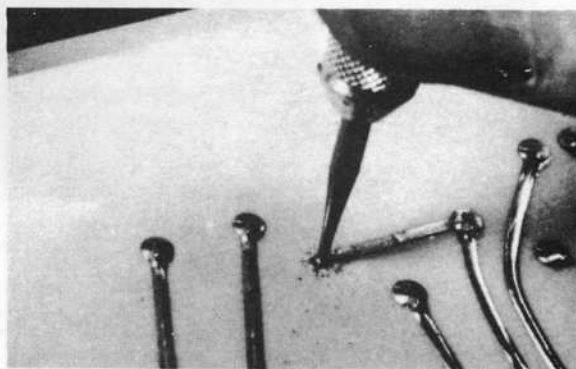

FIGURE 5. DRILLING OUT DAMAGED HOLE
STEP 3—Using the Ball Mill recommended in TRAK-PAD/EYELET DATA CHART, drill out the damaged hole (see Figure 5). This removes the damaged plating and prepares the hole to accept the new Funnelet/Eyelet. Check for “burrs” that may prevent the Funnelet/Eyelet from inserting properly. A correct size Funnelet/Eyelet should slide easily into the drilled hole with a slight clearance. Check Funnelet/Eyelet “I.D.” to insure that component lead will fit. (**NOTE:** This procedure is not recommended for multi-layer Printed Circuit Boards).